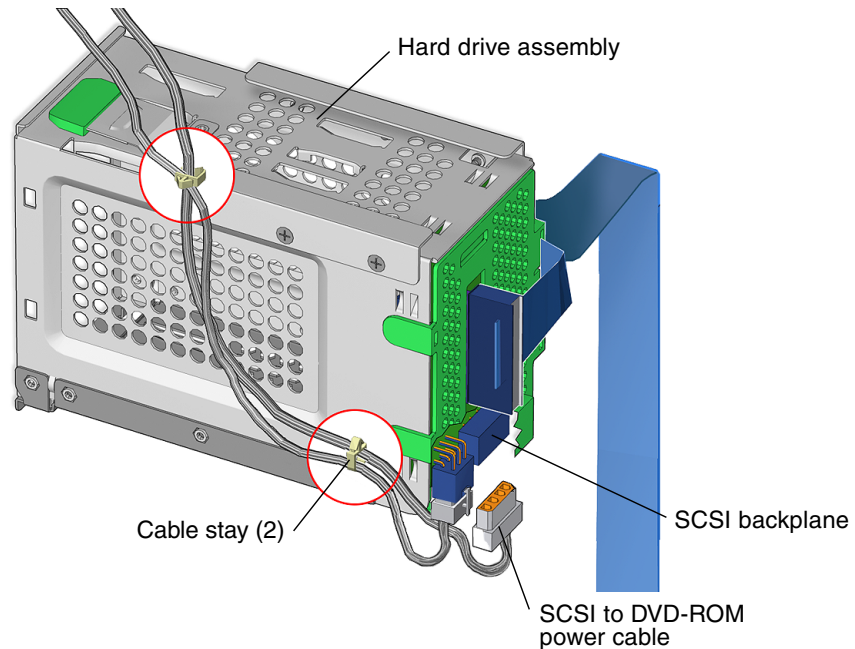

FIGURE 14-7 Removing the SCSI to DVD-ROM Cable Assembly from the Cable Stays
10. Remove the SCSI to DVD-ROM cable assembly from the cable stays (FIGURE 14-7). The SCSI to DVD-ROM power cable is routed through the two cable stays on back of the hard drive assembly.
7. **Connect the 4-pin SCSI to DVD-ROM power cable to the SCSI backplane (FIGURE 14-7).**
8. **Install the SCSI to DVD-ROM power cable assembly into the routing clips (FIGURE 14-7).**